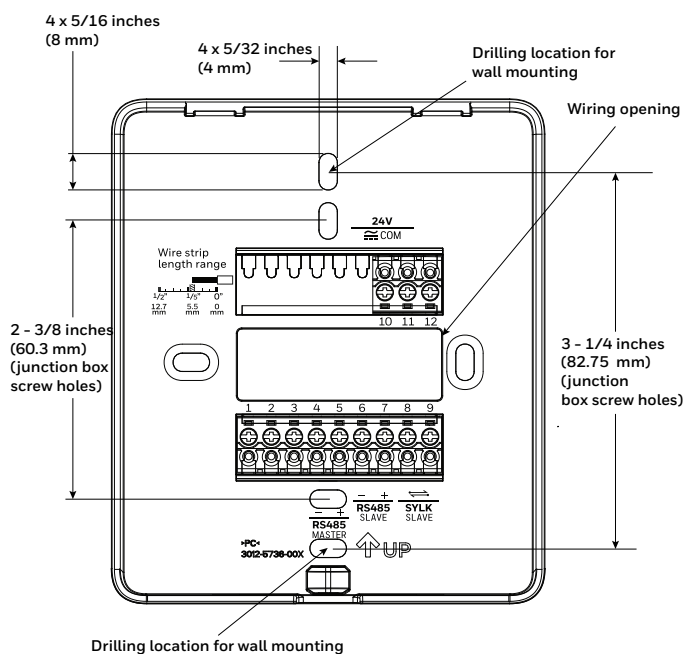

Fig. 8 Wall plate Drilling Locations
3. Pull the wires through the wiring opening of the wall plate and position the wall plate along the junction box to align the mounting holes. For junction box screw holes, refer to *Fig 8 on Page 8*.